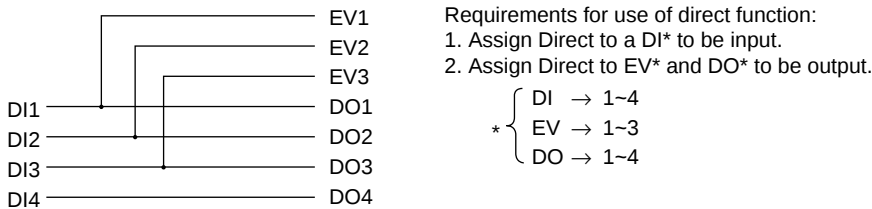

Fig. 1 Relations between DIs and Events/DOs
Fig. 1 shows relations between DIs and Events/DOs.
- If you want to output DI signal to EV3, as illustrated in Fig. 1, the DI input which can be output to EV3 is DI3.
- (1) Assign Direct to DI3. (See 6-4. 3) Setting of DI assignment.)
- (2) Assign Direct to EV3. (See 6-5. 1) Setting of event action and DO action mode.)
- (3) When input to DI3 is turned ON/OFF, EV3 output turns ON/OFF. (See Chapter 7 External Input/Output.)